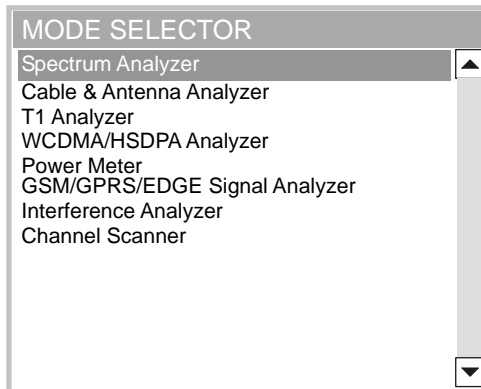

Figure 2-13. Mode Selector Menu
To access the functions under the Mode menu, select the **Shift** key, then the **Mode** (9) key. Use the directional arrow keys or the rotary knob to highlight the selection and press the **Enter** key to select. The list of modes that appears in this menu will vary depending upon the options that are installed and activated in your instrument. Figure 2-13 is an example of the Mode menu. Your instrument may not show the same list.